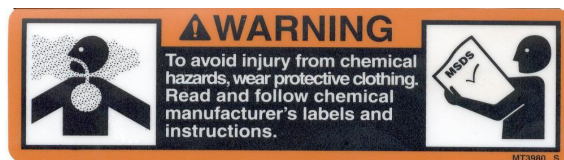
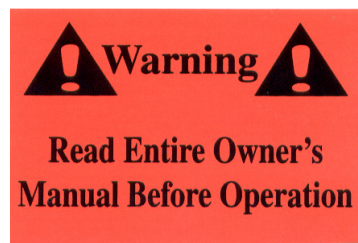

Figure 1: Chemical Warning Decal(# DEMENT3980)
Figure 2: Owner's Manual Decal(# DE39)
- A chemical warning decal and an owner's manual warning decal are located on the applicator's tank. Be aware of their location. See Figure 1 and Figure 2 on page 2. Always replace any warning decals that aren't legible or are missing.